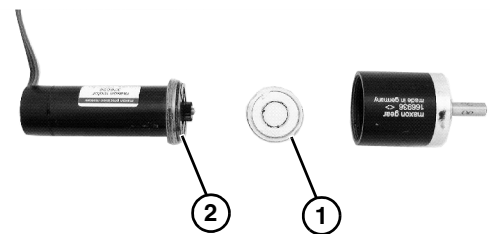

Figure 4
3. Separate motor from old gear reducer making sure washer (**Figure 4, item 1**) is not attached to motor face (**Figure 4, item 2**).